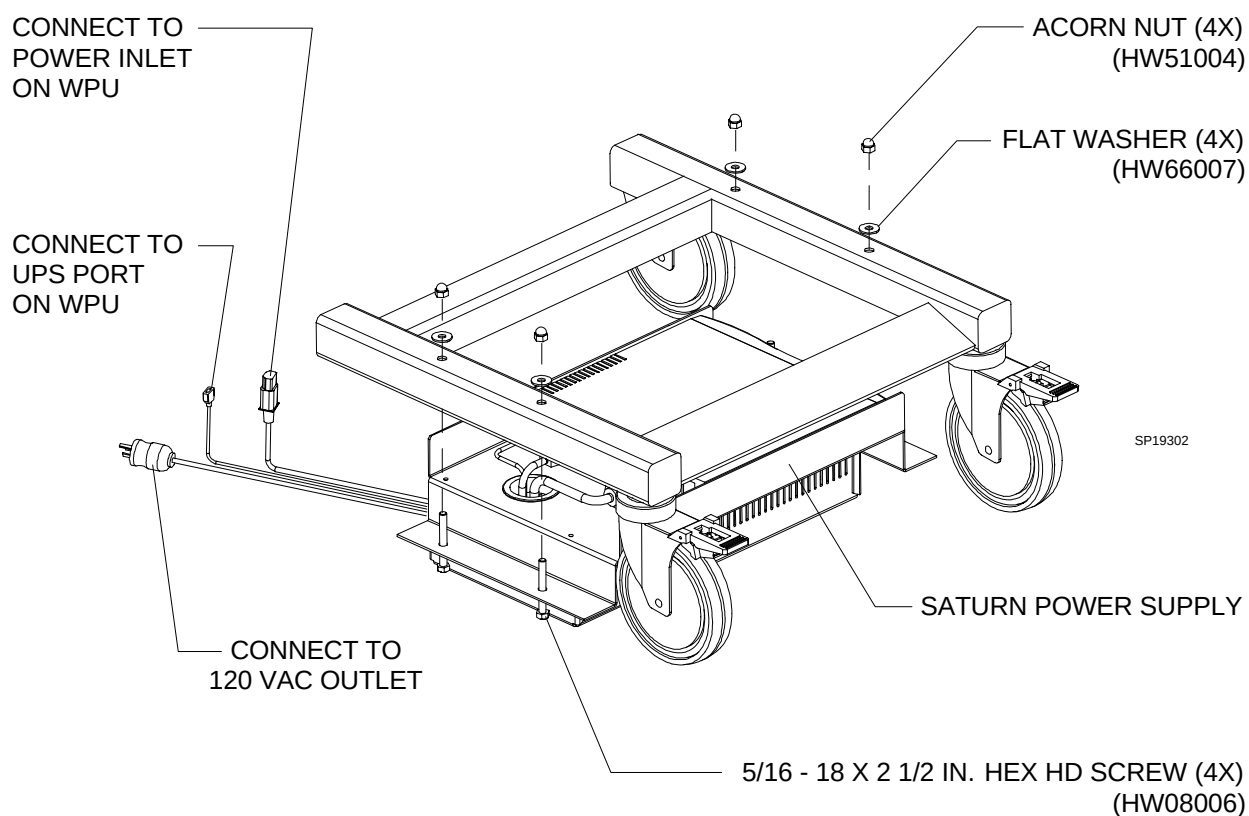

FIGURE 2. Power Supply Installation
6. Attach the power supply to the frame rails using four 5/16-18 x 2½ in. hex hd screws , flat washers and acorn nuts as shown in Figure 2.